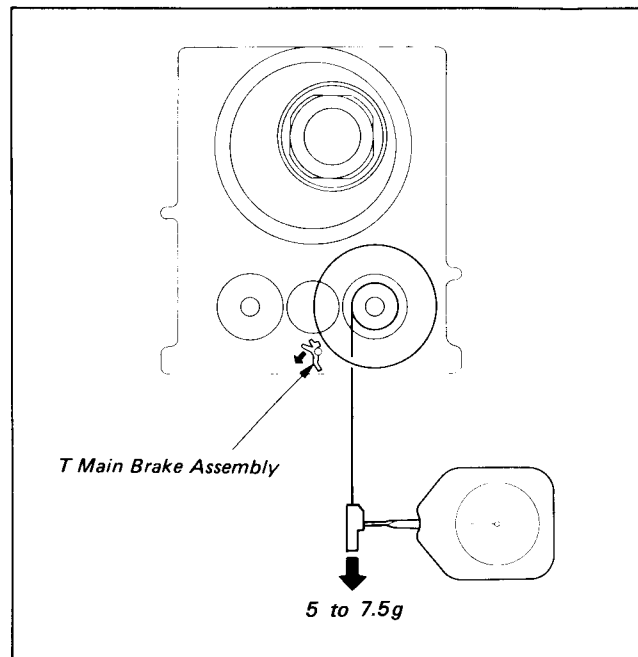

Fig. 8-65.
- 4) Pull the dial tension gauge (Ref. No. J-6) toward the arrow and check that the value satisfies the required value. (See Fig. 8-65.)